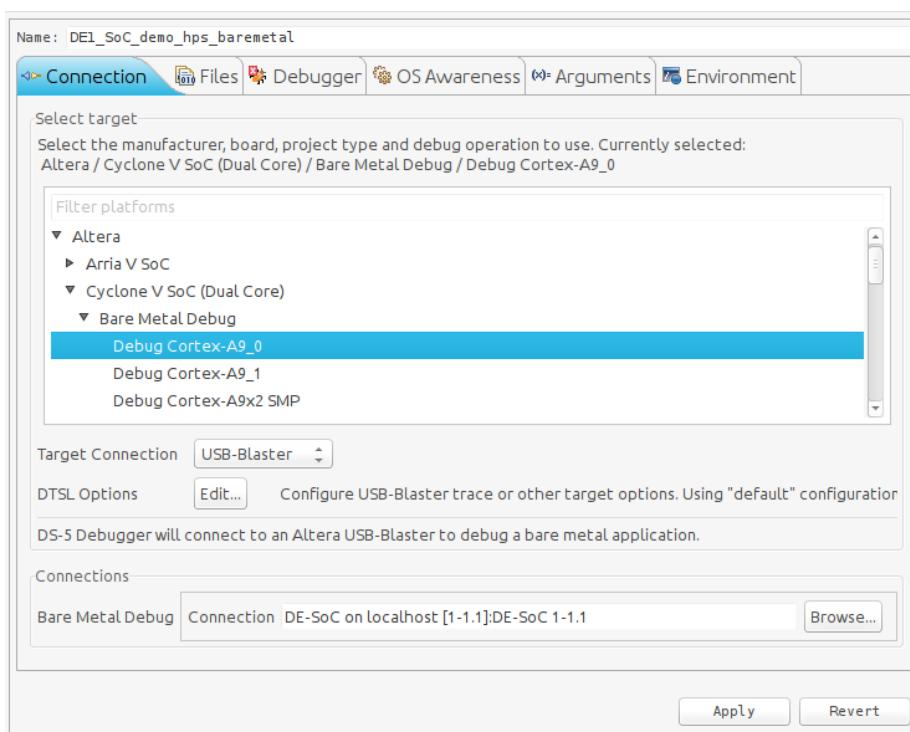

Figure 12-5. Debug Configuration "Connection" Tab
- d. You should have something similar to Figure 12-5.